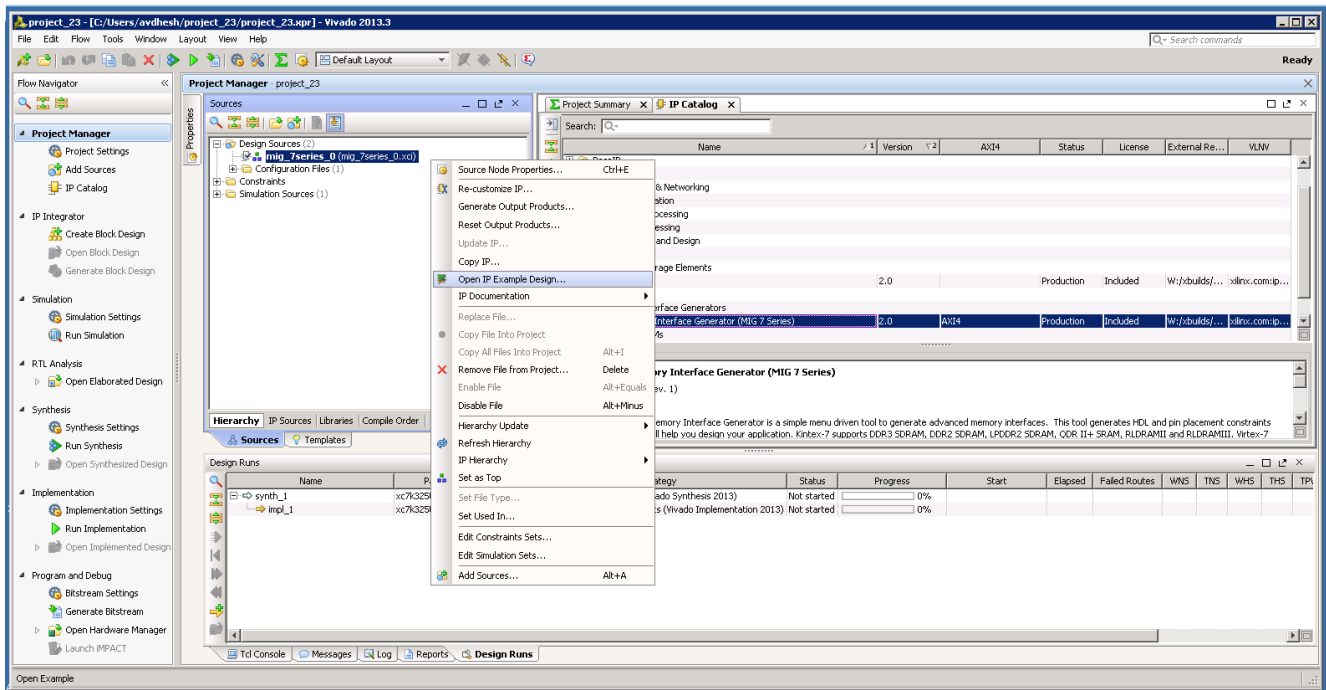

Figure 4-34: Open IP Example Design
9. Vivado supports **Open IP Example Design** flow. To create the example design using this flow right-click the IP in the **Source Window**, as shown in Figure 4-34 and select.